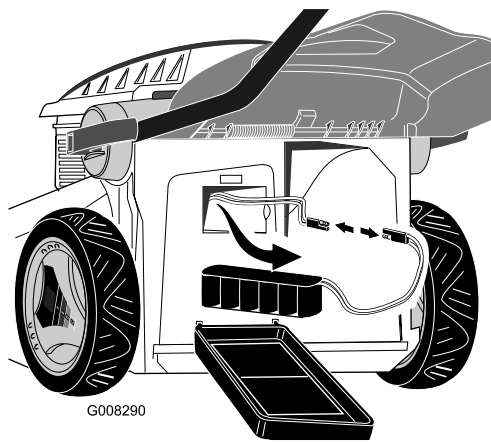

Figure 24
2. Remove the battery from the compartment and disconnect the battery cable from the mower cable (Figure 24).